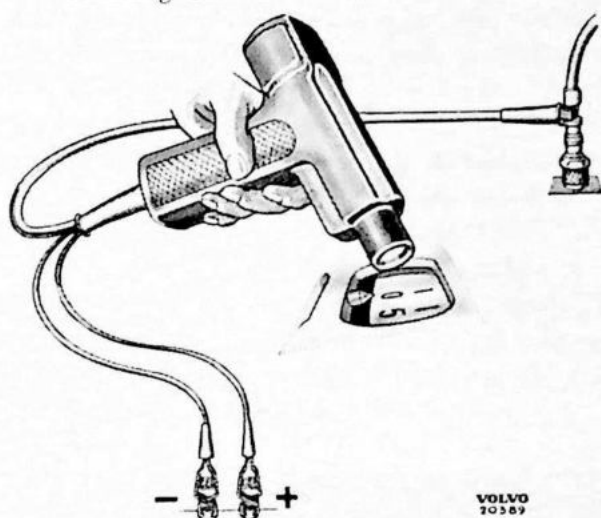

Fig. 66. Checking ignition timing.
3. Connect up a lamp, Fig. 66, with the ignition cable to the spark plug in number one cylinder and the other cables to the battery.